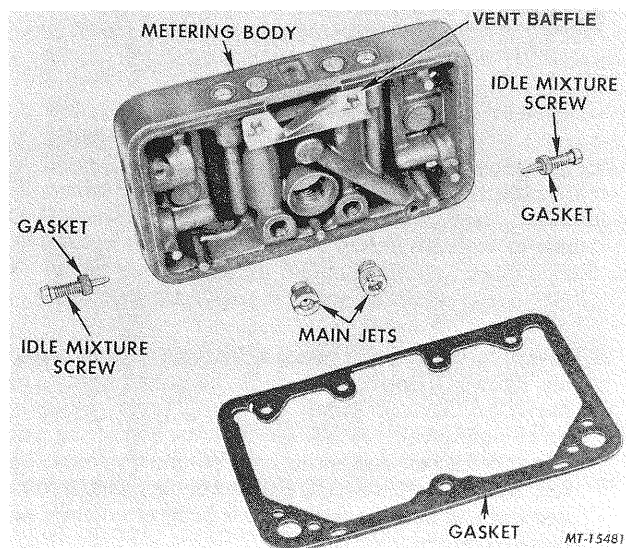

FIG. 29 Primary Metering Body, Fuel Bowl Side (Disassembled View)
7. Remove gasket and main metering jets using 3/8 inch wide screwdriver or proper jet socket (Figure 29).
8. Turn idle limiter caps "clockwise" to stops. Remove caps by prying off of idle mixture screws (if used). (**Be careful not to bend screws**). Count and record exact number of "clockwise" turns to seat each screw lightly. The same number of turns must be maintained from the seat upon reinstallation. Remove screws and gaskets from metering body. Remove vent baffle (Figure 29).
Inspect mixture screws. If the tapered portion is grooved or ridged, a new mixture screw should be installed to insure ability to maintain the correct idle mixture. Turn screws in lightly against their seats. Back each screw out the exact number of turns recorded during disassembly (Figure 29).
3. Install main metering jets using proper screwdriver or jet wrench (Figure 29).
4. Install fuel baffle (if used). Press metering body and fuel bowl gasket down firmly on the dowels (Figure 29). **Be sure you are using the correct metering body gasket and that bowl gasket is not covering the accelerator pump passage.**